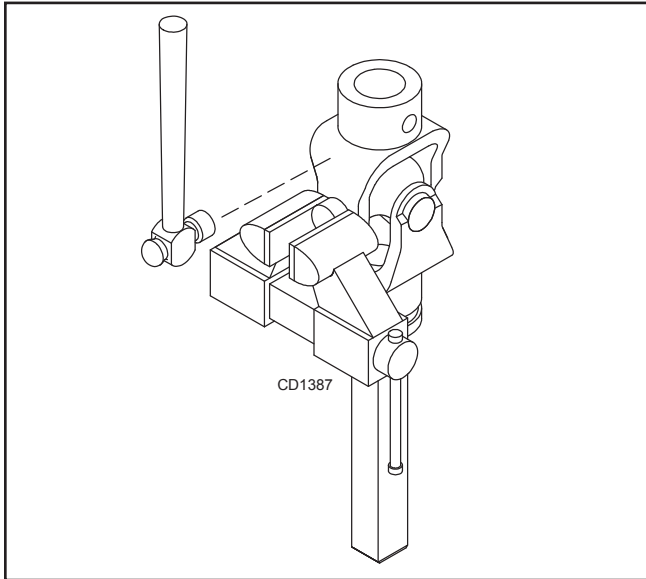

Figure 25. Remove Bearing Cups
3. Clamp cup in vise as shown in Figure 25 and tap on yoke to completely remove cup from yoke. Repeat Step 2 & Step 3 for opposite cup.